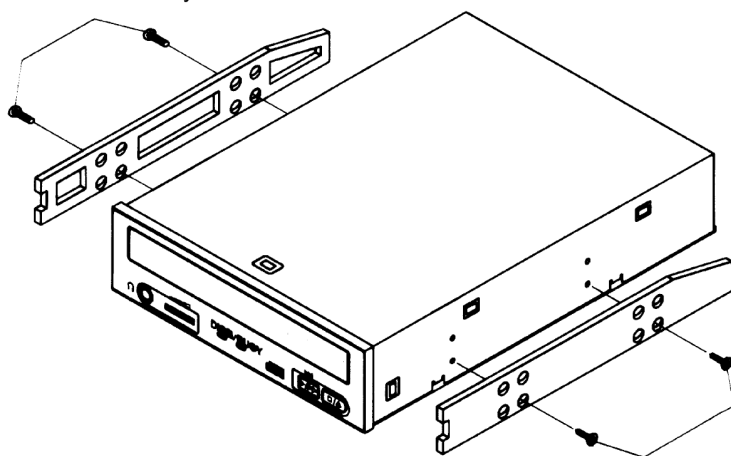

Figure 15: Installing mounting rails (if needed)
5. If you must use mounting rails, fasten the rails to the lower pair of holes as shown in Figure 15. (In some instances, you may need to fasten the rails to the upper set of holes.) After fastening the rails, check their positioning by sliding the drive into the bay before you mount the drive or connect any cables.